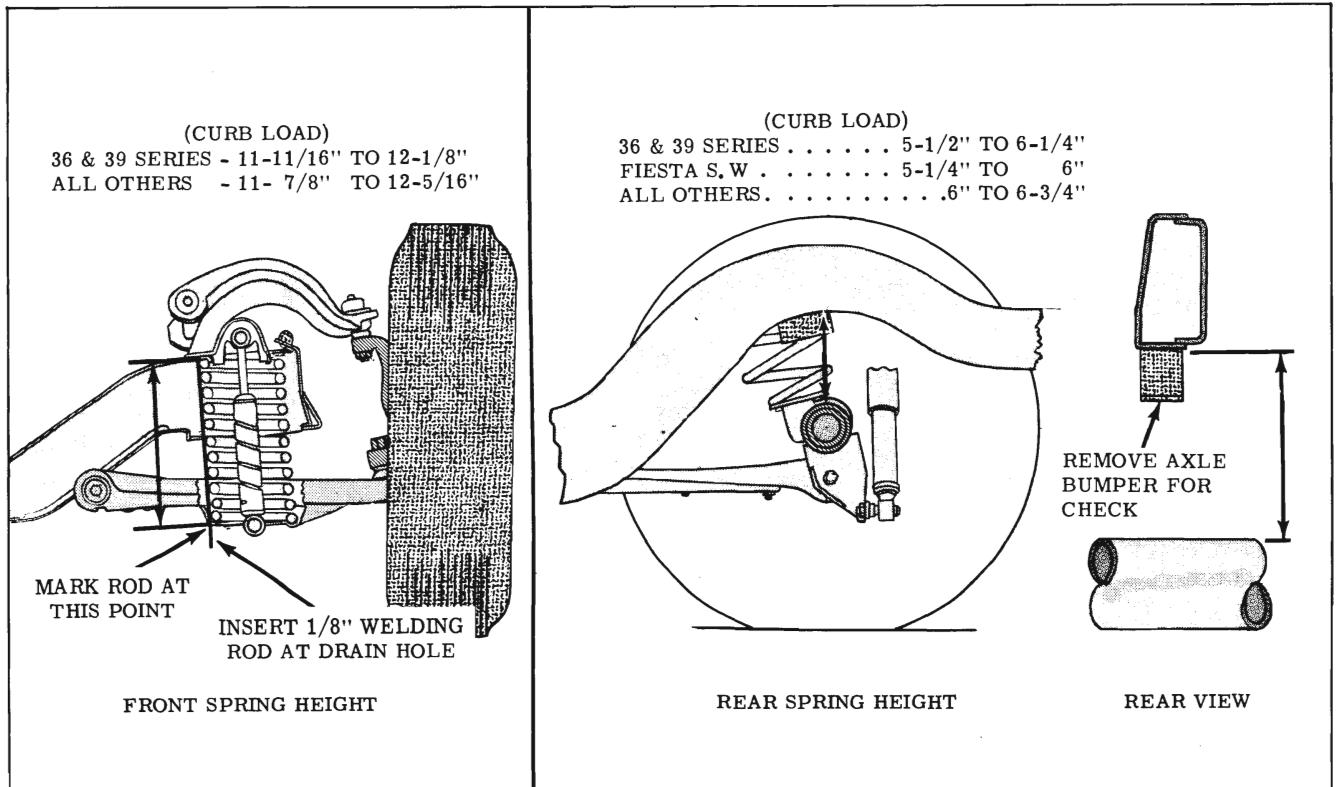

Fig. 5-53 Spring Carrying Heights
7. CARRYING HEIGHT	(Refer to Fig. 5-53)
2. CARRYING HEIGHT . . . . . (Refer to Fig. 5-53)